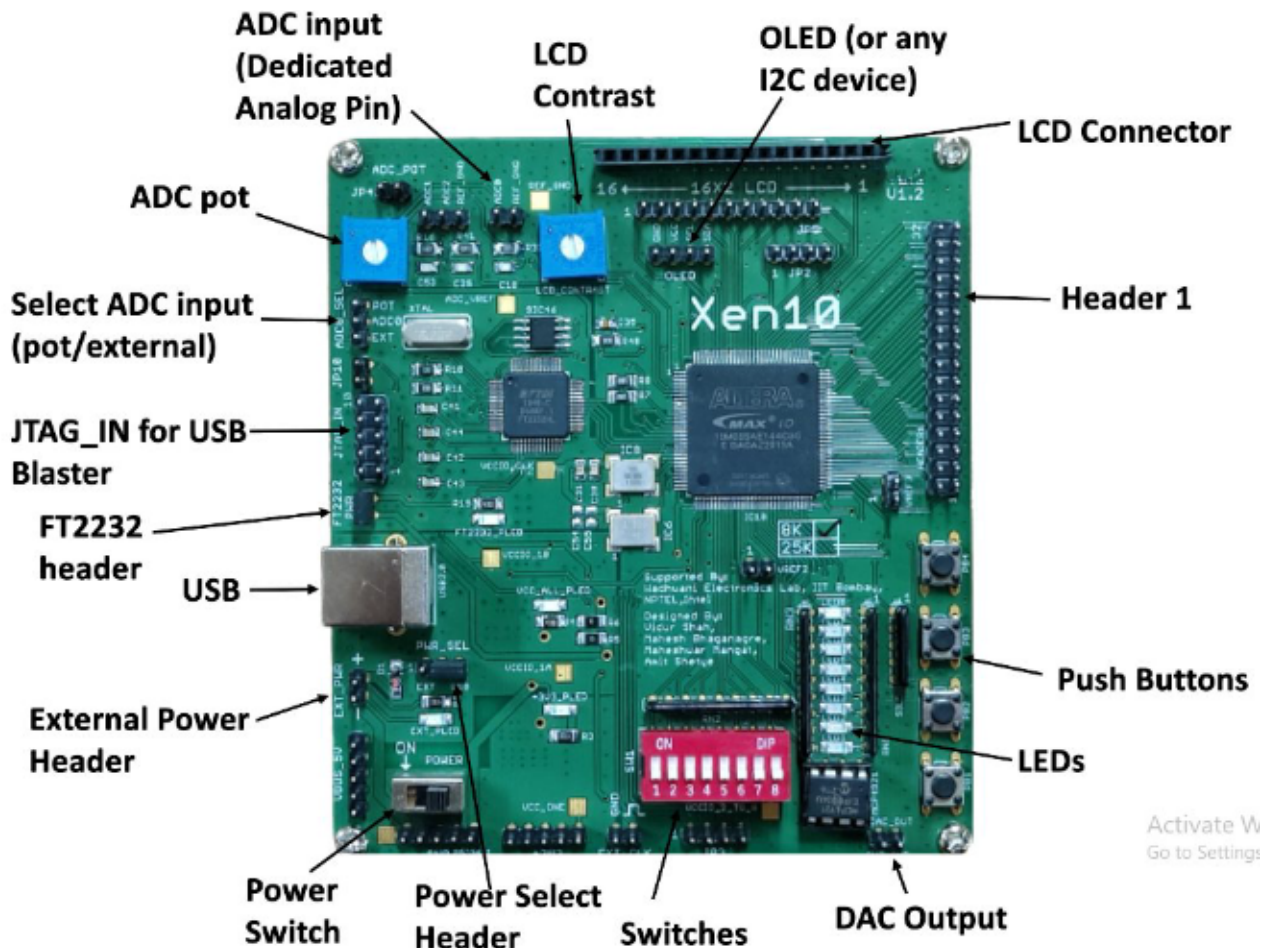

Figure 1: Xen10 topview with labelled features
Xen10 is a 10M25SAE144C8G / 10M08SAE144C8G MAX-10 FPGA-based board developed by Wadhvani Electronics Lab, IIT Bombay, NPTEL, Intel. I/O supply voltage required is 3.3 V. Power supply either through USB or EXT_PWR header must not exceed 5 V (refer figure 1). This development board is equipped with on chip 12-bit ADC, TSD for temperature sensing, PLL, on-board 12-bit DAC and peripherals consisting of 8-switches, 8-leds, 4-push buttons, 10,50 MHz and 1 Hz clock generators, header connectors for GPIO's, LCD, OLED, I2C, etc. This is a low-cost solution aimed to cater to the needs of undergraduate and graduate electrical/electronics engineering students in a course in digital design and thereafter, design of fairly complex digital systems.
Figure 1 shows a top view of Xen10 with detailed labels. Functionality of labelled devices will be discussed in appropriate sections.
2. When interfacing with large number of external peripherals, power the board through a single +5V DC supply either through USB or EXT_PWR header (refer figure 1) and ensure enough current can be provided by supply.
4. If programming board using USB Blaster through JTAG_IN header (refer figure 1) then ensure the FT2232_PWR jumper is disconnected.